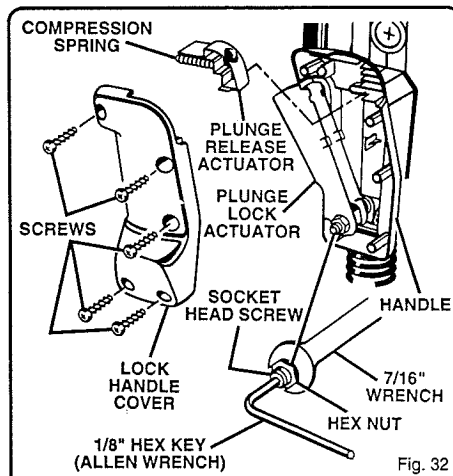

Fig. 32
See Figure 32.
2. Remove lock handle cover screws and lock handle cover. See Figure 32.